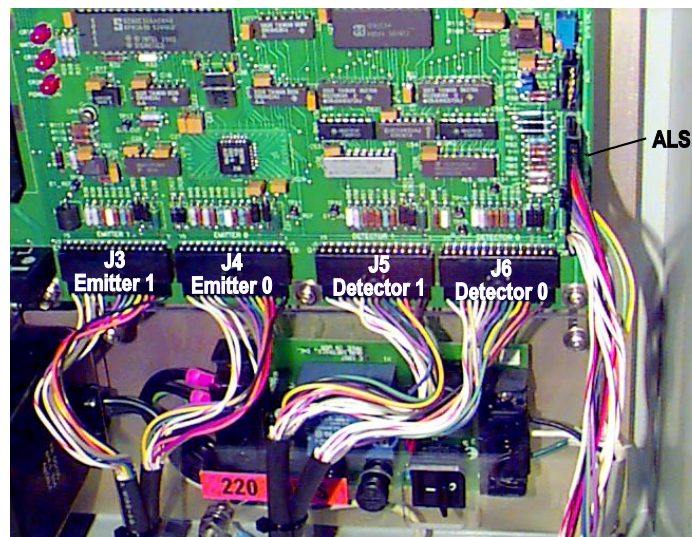

Figure 38. Visibility Sensor Controller Board Head Connections
4. Connect the sensor cables to the corresponding connectors on the controller board as shown in Figure 38. Ensure that the cables are properly installed prior to connecting power.